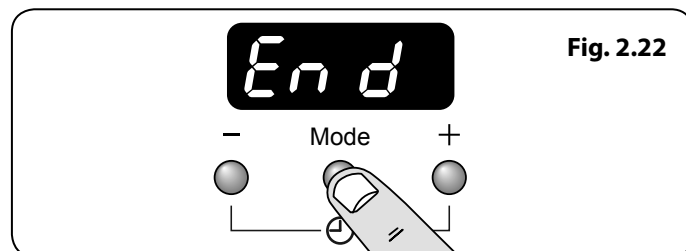

Fig. 2.22
2. Press the mode [Mode] button until the display flashes 'End' (**Fig. 2.22**). Then set the 'stop time' using the [+] or [-] buttons. After a 5 second period following adjustment the current time will be displayed along with the 'A' and cooking [🔥] symbols (**Fig. 2.23**).